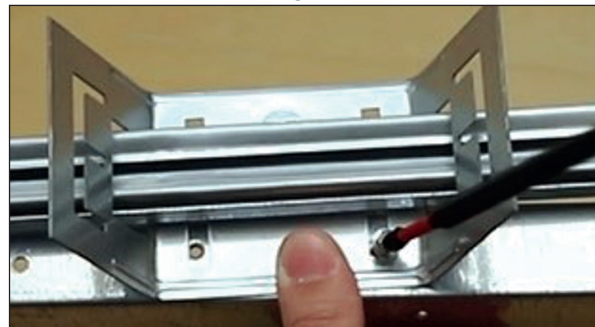

Fig. 5
- Secure hanger bars with provided hardware. [Fig. 5]